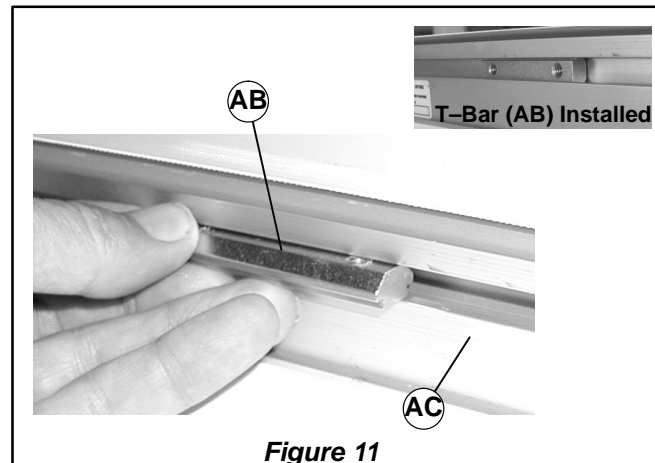

Figure 11
- Install one t-bar (AB of Figure 11) in bottom t-slot on each side of conveyor (AC).
16. Attach pivot bracket (K of Figure 12) to t-bar (AB of Figure 11) with two socket head screws (AD of Figure 12). Do not tighten screws.